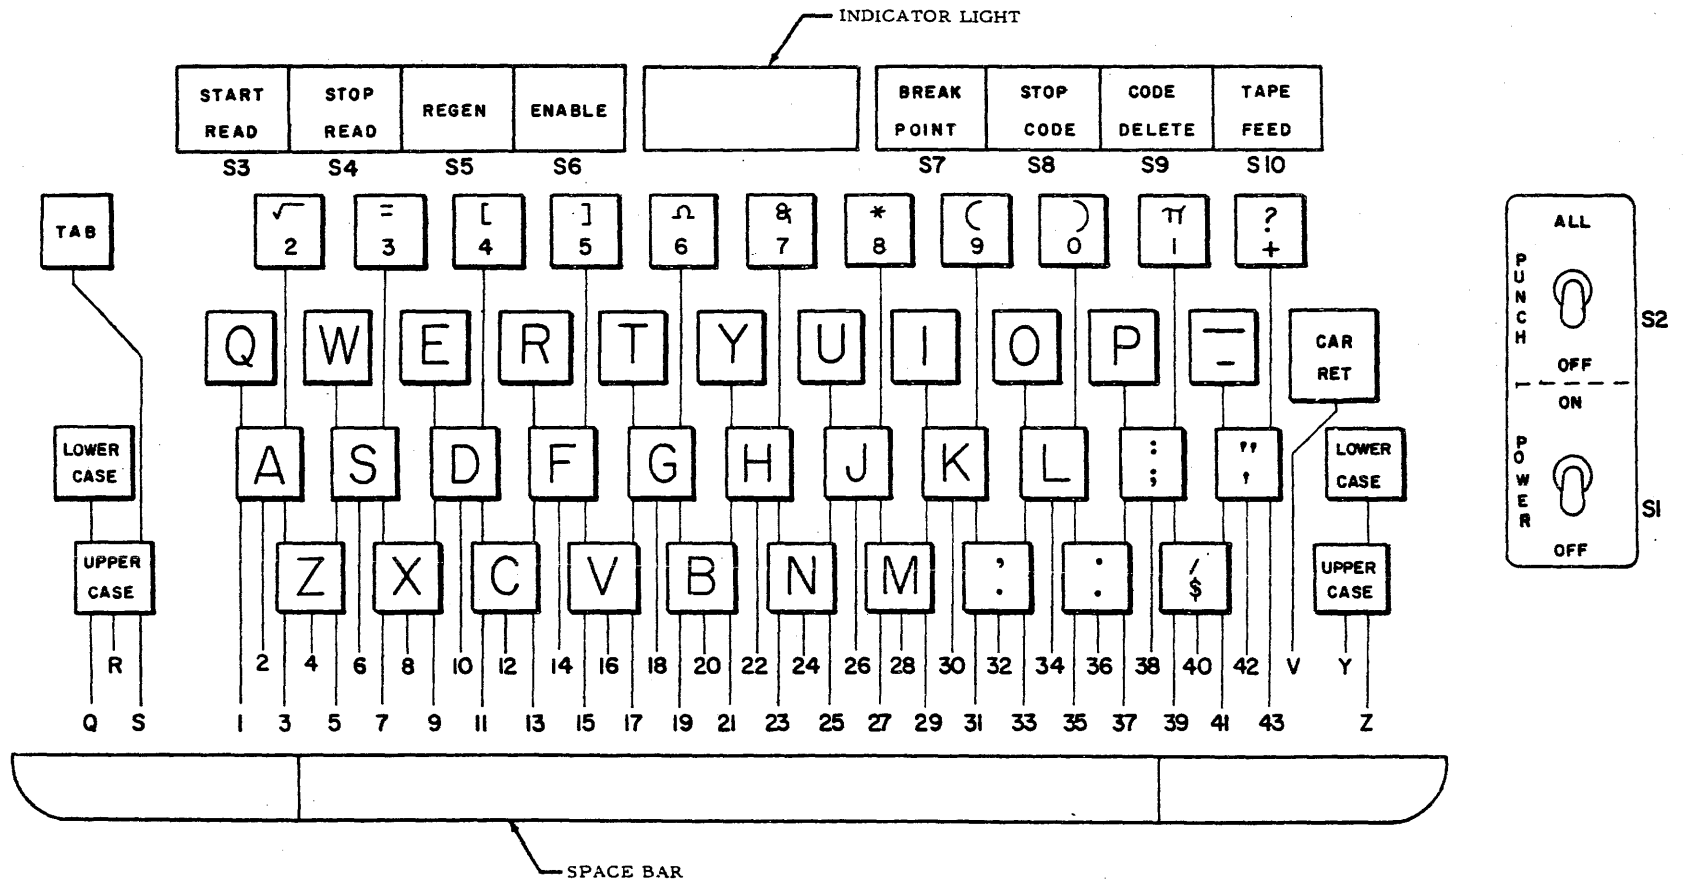

Figure A-2. Flexowriter Keyboard
- 7) Switches S1 through S10 are on the Flexowriter keyboard (see Figure A-2). Table A-3 lists functions of switches.